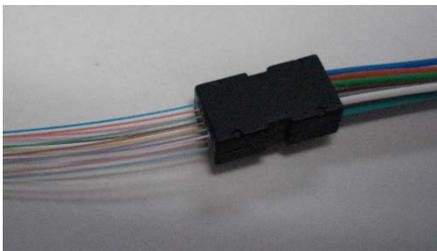

Figure 7
6.4 Begin with the Blue nylon sub-unit. Insert each fiber into its colored-coded tube according to **Figure 10 (next page)**. Begin with the blue strand first, followed by the orange, and so on until all 12 fibers are started into the Breakout kit subunits. Work carefully, comb the fibers, and ensure strands are not crossed or twisted before placing into base unit. The completed breakout kit subunit should look like **Figure 7** below with fibers long enough to be past the end of the 900 μ m tubes.